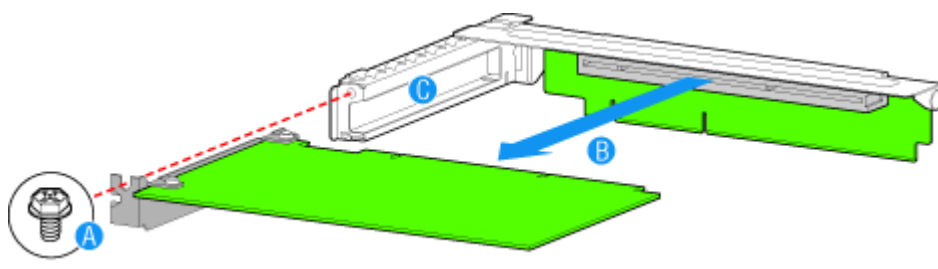

Figure 149: Removing a Full Height Add-In Card
5. Remove the screw at the rear of the riser assembly. See letter “A” in Figure 149.
6. Pull the add-in card from the socket in the riser assembly. See letter “B” in Figure 149.
7. Install a filler panel over the opening at the rear of the riser assembly. See letter “C” in Figure 149.
8. Re-install the screw you removed in step 5. See letter “A” in Figure 149.